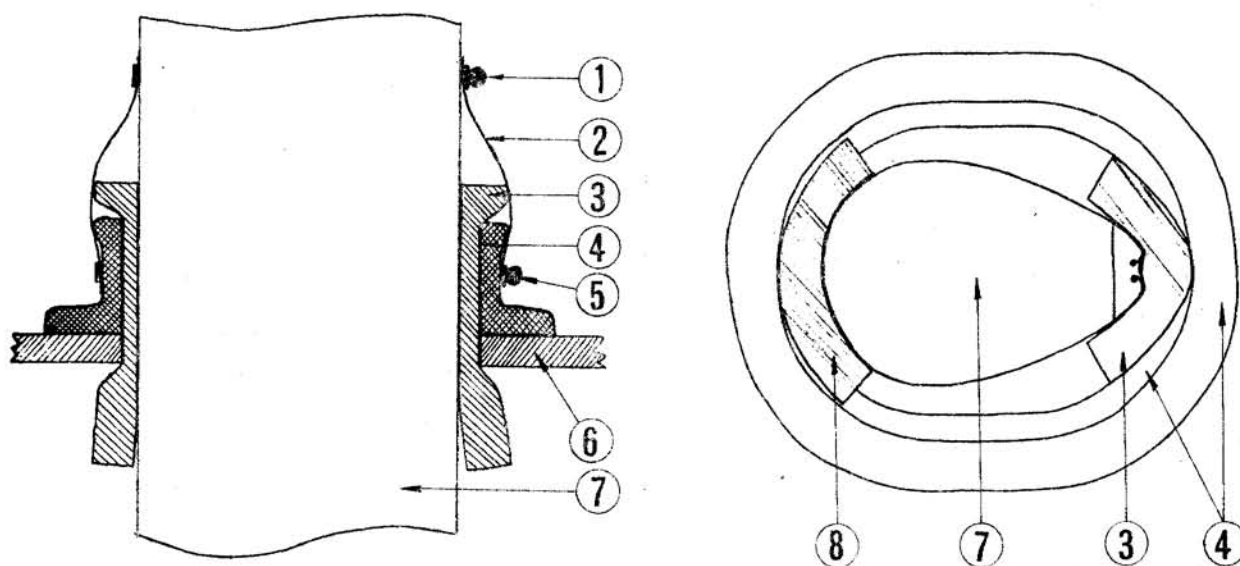

Fig. 5
19. Place one of the rubber spacers (approx. 150 x 110 x 25 mm) on the high edge aft of the mast in the mast hole (Fig. 5).